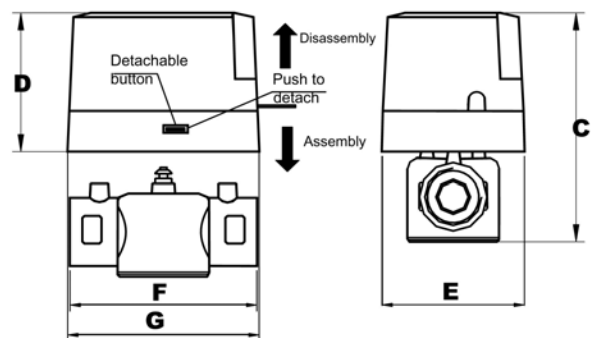

Fig 1
1. Installation of detachable valve actuator and body: Move the manual operating lever slowly and hold in the retaining notch as Fig. 1. Insert the quadrate axis of the valve body into the quadrate hole of the valve actuator (be assure another axis not withstand the valve actuator), then rotate the valve actuator or body so that another axis can be inserted into the matching hole. After click sound is heard, the installation is finished. If disassembly, push the detachable button with hand, and pull the valve actuator at the same time, then it can be detached.